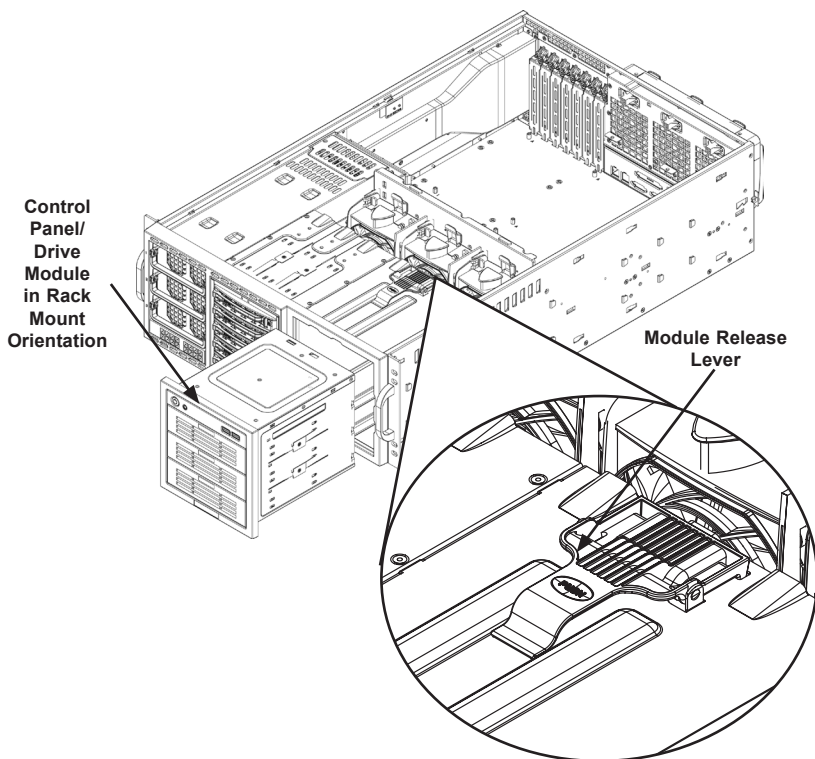

Figure 5-4. Rotating the Control Panel/Drive Module
3. Push the module release lever to unlock the module. (Figure 5-4)